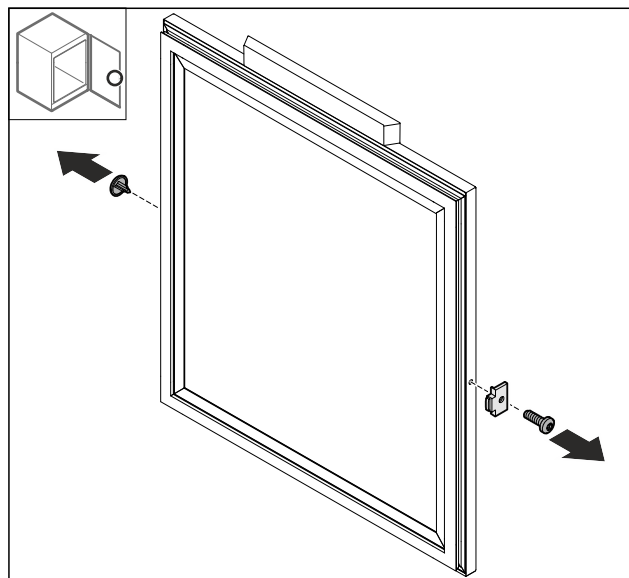

Fig. 72
- Remove the Fig. 72 (1) cover.
- Pull off the door stopper Fig. 72 (2).